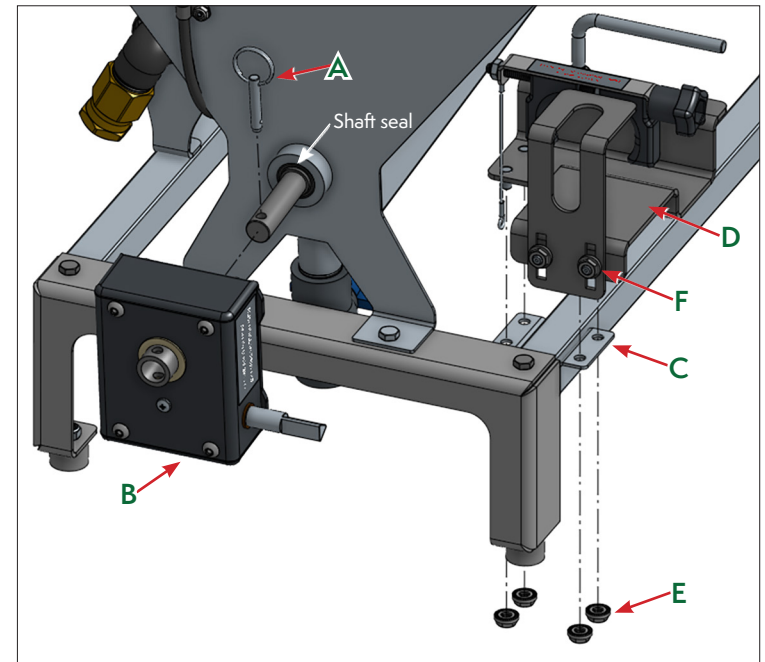

Figure 1
## Assembly Instructions (See Figure 1):
- **See Figure 1:** The drill hold down will come pre-set, but the height can be adjusted if needed by loosening the two flange nuts **F**, setting it to the desired height, and re-tightening the flange nuts with the wrench provided.